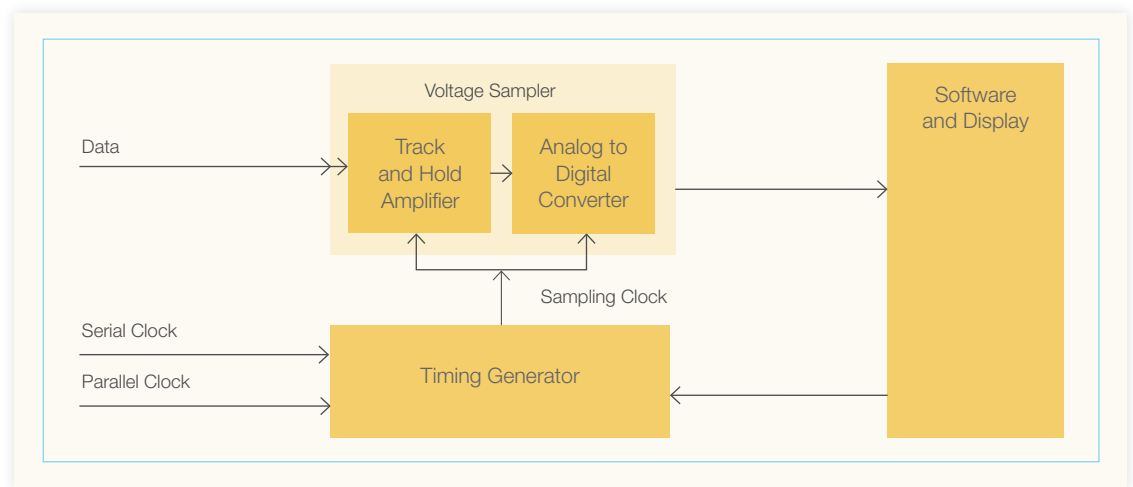

Fig 4.1. Key Building Blocks of a Digital Communication Analyzer
4. Basics of Digital Eye Analyzer: A digital eye analyzer is a digital sampling oscilloscope, e.g. Agilent 86100, Tek DSA8200. Using a digital sampling scope, the eye analysis can be performed irrespective of the sampling rate. Most digital sampling scopes sample the incoming eye at less than 10 MHz while the serial data rate can be as high as 40 Gb/s. Parameters such as jitter, rise/fall time, amplitude, extinction ratio, etc. can be measured accurately without sampling at serial clock speed. A high level block diagram of an oscilloscope is shown in Fig 4.1. There are three key building blocks: A voltage sampler, timing generator and software for display.